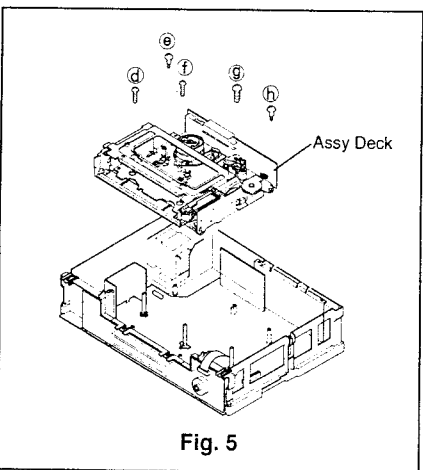

Fig. 5
- ④ Remove the five screws (d~h) holding the Assy Deck, shown in Fig. 5, and disconnect the connectors ML, MM and ME.
- ⑤ Slowly raise the Assy Deck upward to remove it.